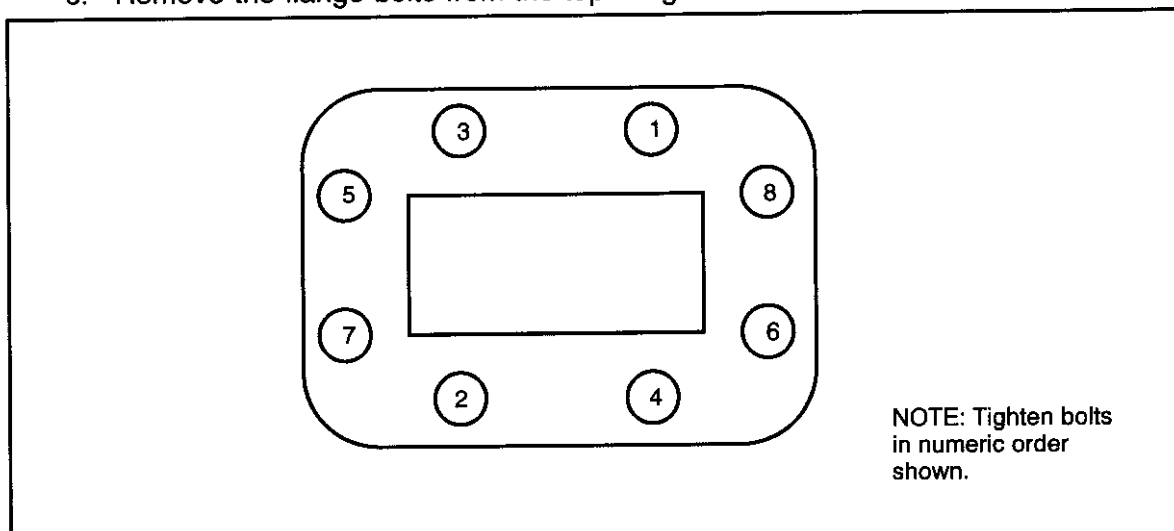

Figure 33. Wave Guide Bolt Tightening Alternating Cross-over Pattern.
- b. Using an alternating cross-over pattern, as shown in Figure 33, tighten each bolt until a torque of 80 inch lb is achieved.